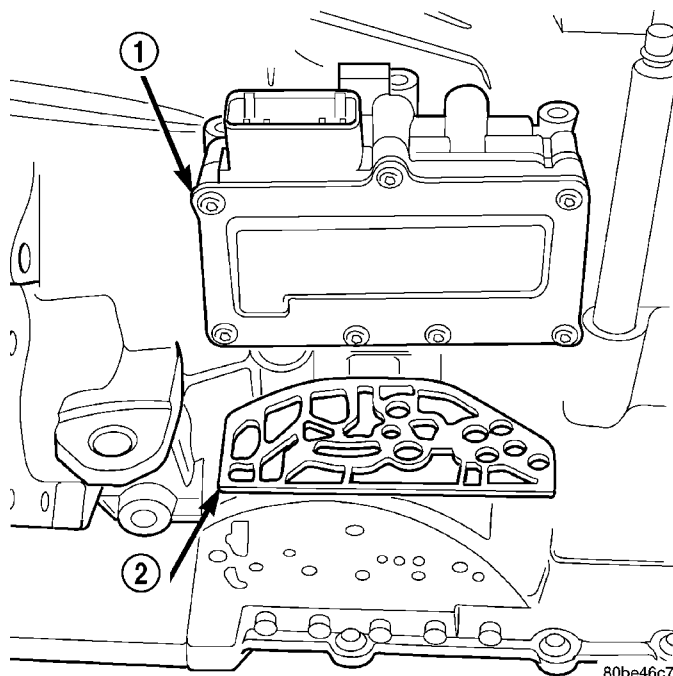

Fig. 284 Solenoid/Pressure Switch Assembly and Gasket
(7) Remove solenoid/pressure switch assembly and gasket (Fig. 284). Use care to prevent gasket material and foreign objects from become lodged in the transaxle case ports.
(1) Install solenoid/pressure switch assembly and new gasket to transaxle (Fig. 284).